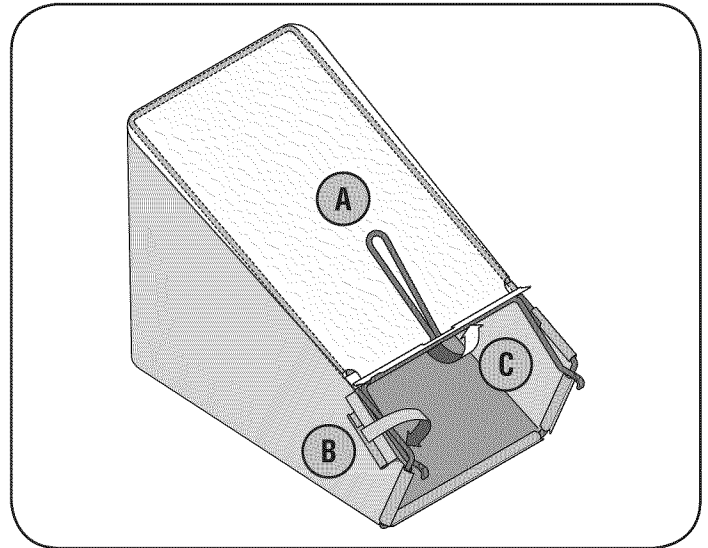

Figure 5
- b. Slip plastic channel of grass bag over frame rods. See Figure 5. All the plastic channels except center top of bag attach from outside of bag.